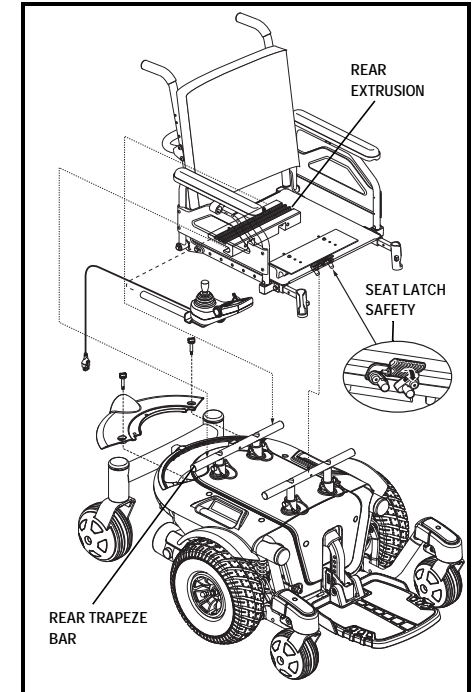

Figure 11. Universal Mounting System
It may be necessary to install the seat either prior to initial operation or after transporting your power chair. Most seats are attached to the power base with the Universal Mounting System (UMS). The UMS consists of universal parts that may be attached to any medium-back or high-back seat, regardless of seat width or seat depth. The two main components are aluminum extrusions mounted to the seat base. These extrusions attach to a pair of trapeze bars that are mounted to the power base. **See figure 11.**
1. Tilt the seat back and slide the rear extrusion onto the rear trapeze bar. **See figure 11.**
3. Flip the seat latch safety down. **See figure 11.**